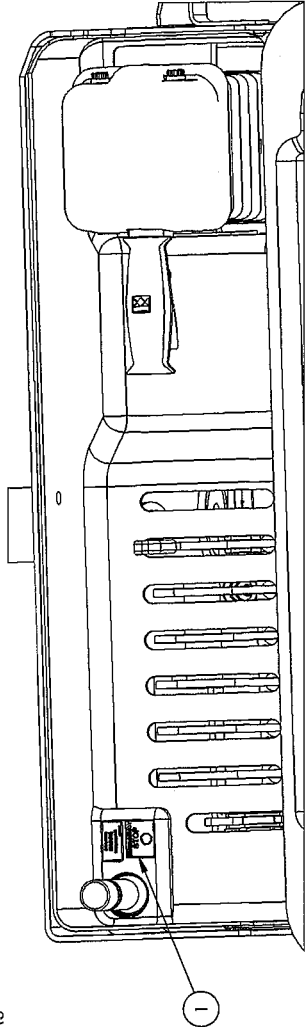

FIGURE 1. PASSENGER CONTROL DECAL INSTALLATION
1. INSTALL AN EMERGENCY STOP LABEL, ITEM 1, AT EACH STOP/START PLUNGER BOTH BOOM TIP CONTROL STATION AS SHOWN IN FIGURES 1 AND 2.